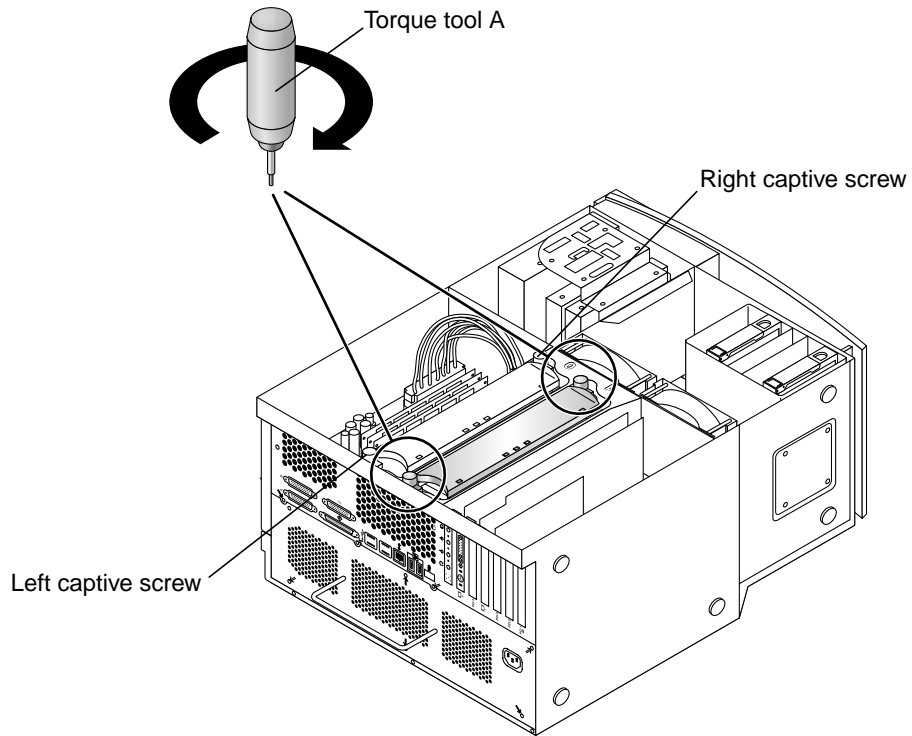

FIGURE 8-13 Alternately Rotating Left and Right Captive Screws One Turn Clockwise
- 10. Use torque tool A to rotate the left captive screw one turn clockwise (see FIGURE 8-13).**
- 11. Use torque tool A to rotate the right captive screw one turn clockwise (see FIGURE 8-13).**